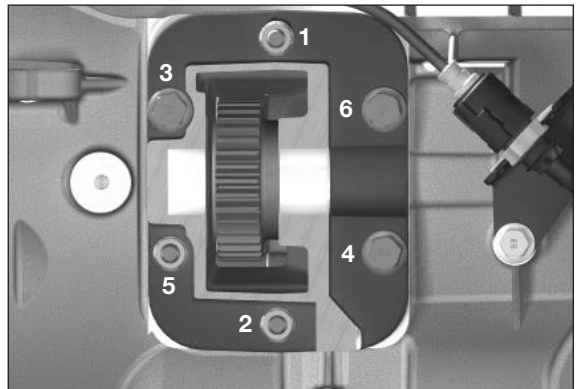

Figure 35
14. Torque all cap screws (**Fig. 35**) to 25 lb-ft [34 N-m] and torque the self-locking nuts to 35-40 lb-ft [48-54 N-m].
**NOTE:** Always torque fasteners in a crossing pattern (**Fig. 35**).